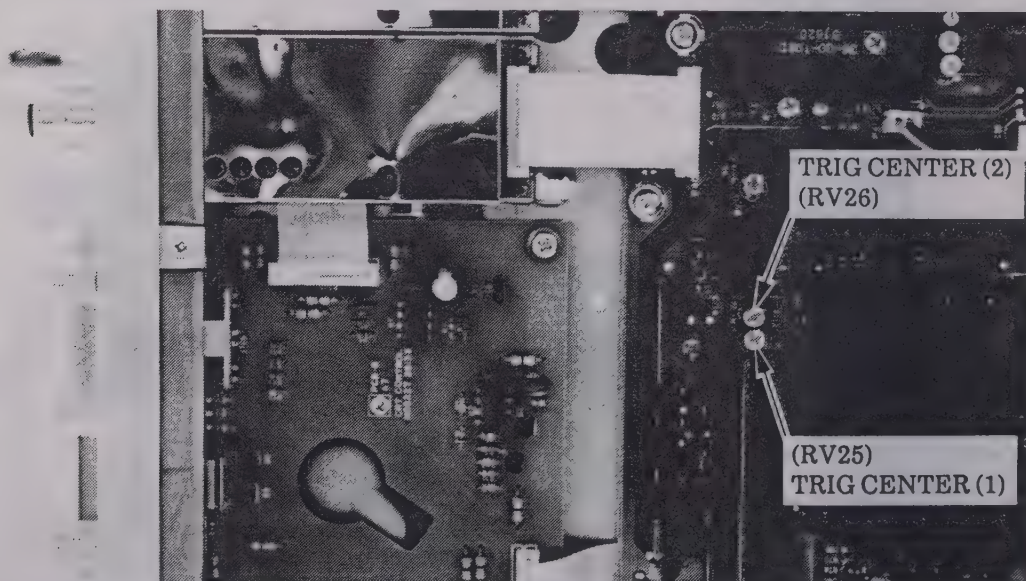

Fig. 4-24 Adjustment position of TRIG CENTER (1) (RV25) and TRIG CENTER (2) (RV26)
- (1) Perform initial setting of the oscilloscope in accordance with Table 4-3.
- (2) Set the input coupling of CH1 to "AC".
- (3) Connect the output of a signal generator which has been set to about 50kHz, to the input terminal of CH1, and adjust the signal output so that the amplitude of the waveform on the CRT is 8 DIV.
- (4) Set "TIME / DIV" to  $5\mu\text{s} / \text{DIV}$ .
- (5) Confirm that the trigger point is at the center of the amplitude of the waveform. If it is not, adjust TRIG CENTER (1) (RV25) on board A4 shown in Fig. 4-24.
- (6) Set "TIME/DIV" to  $10\mu\text{s}/\text{DIV}$ .
- (7) Set "HORIZ MODE" to "B", and "B TIME/DIV" to  $5\mu\text{s}/\text{DIV}$ .
- (8) Set "DELAY TIME" to  $0.00\mu\text{s}$ , and "B TRIG'D" to ON.
- (9) Confirm that the trigger point is at the center of the amplitude of the waveform. If it is not, adjust TRIG CENTER (2) (RV26) on board A4 shown in Fig. 4-24.